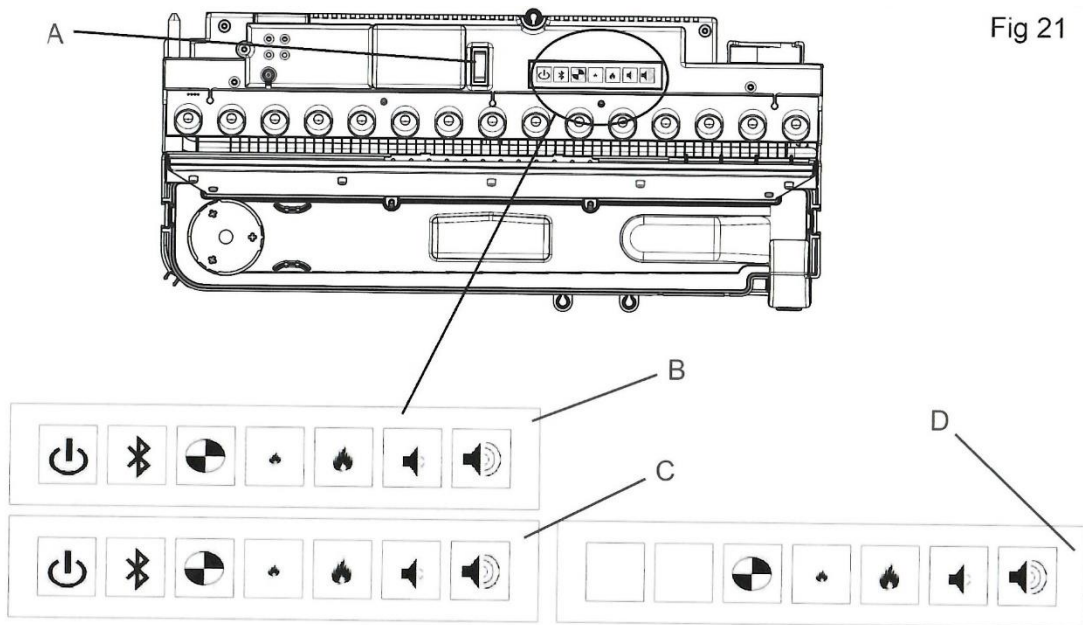

Fig 21
Warning – Always press Switch 'A' to the 'OFF' (0) position (Fig. 21) and disconnect from the power supply before cleaning the fire.
1. Press Switch 'A' to the 'OFF' (0) position (Fig. 21).